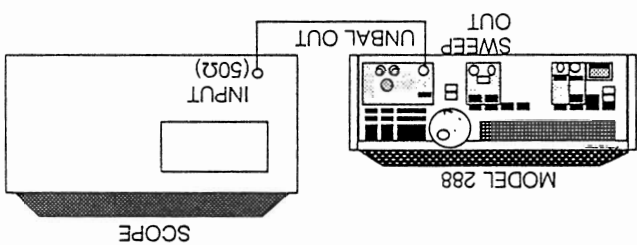

Figure 2-4. Waveforms/Sweep Verification
2. Connect the Model 288 and test equipment as shown in figure 2-4.
2. Connect the Model 288 and test equipment as shown in figure 2-4. Verify 50 Ω source into 50 Ω feed-thru termination.